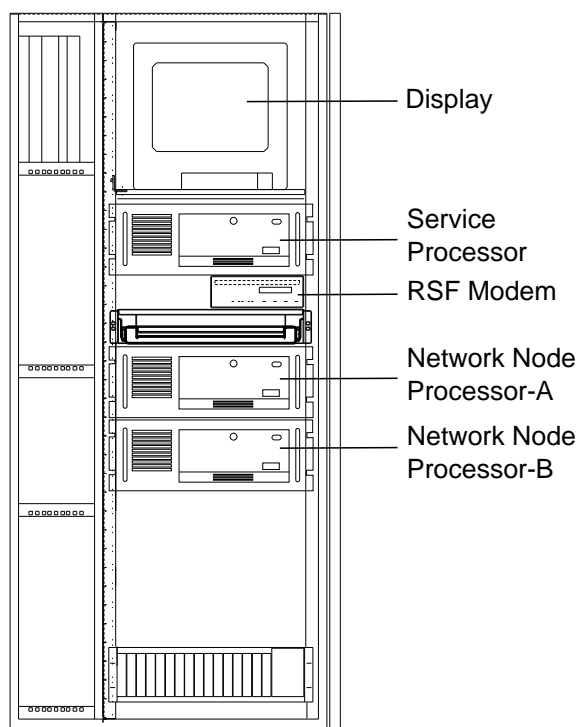

Figure 1. NNP-A installed with SP 7585.
- \_\_\_ 2. Locate the location to install the NNP-A in the Controller Expansion (Refer to Figure 1 on page 6 to Figure 4 on page 6).